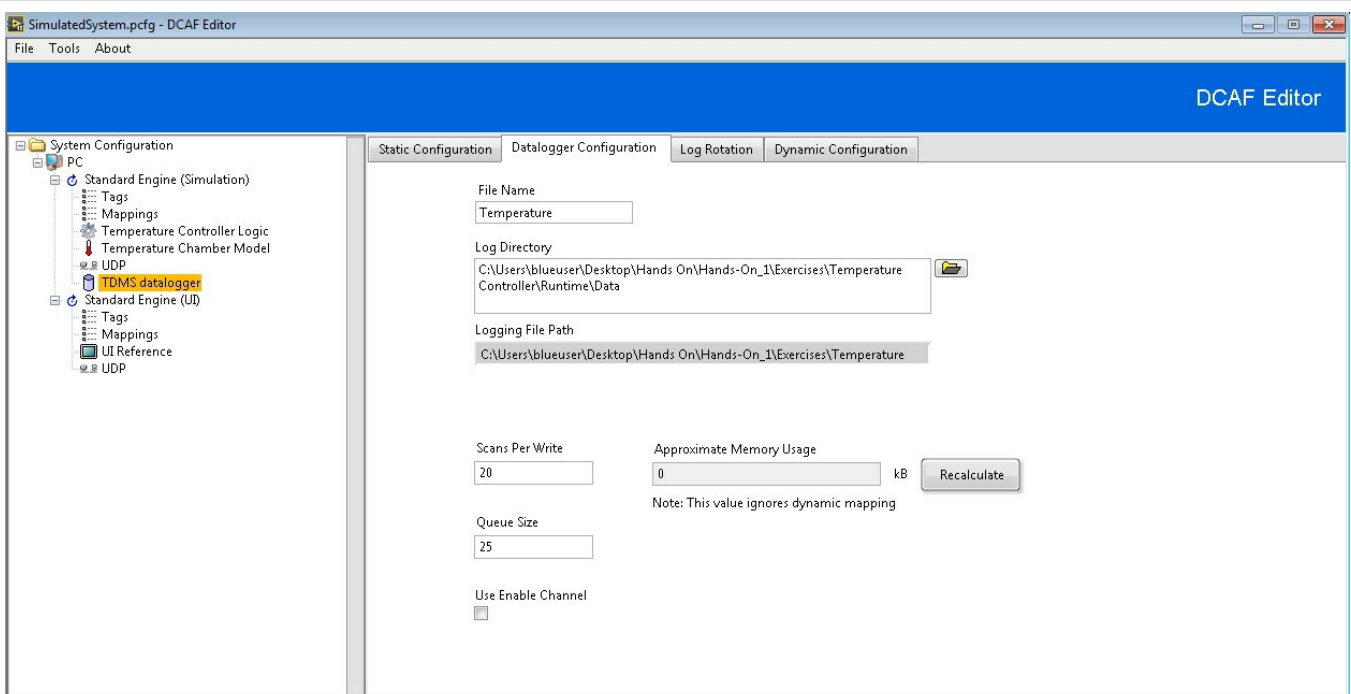

Figure 2.3
6. In the *Log Directory* control, press the browse button to select a File path. Browse to **\Hands On\Hands-On_1\Exercises\Temperature Controller\Runtime** and create a folder named **Data**. Click Current Folder to select this location to save the logged files. Your configuration should look similar to the one shown in Figure 2.3.